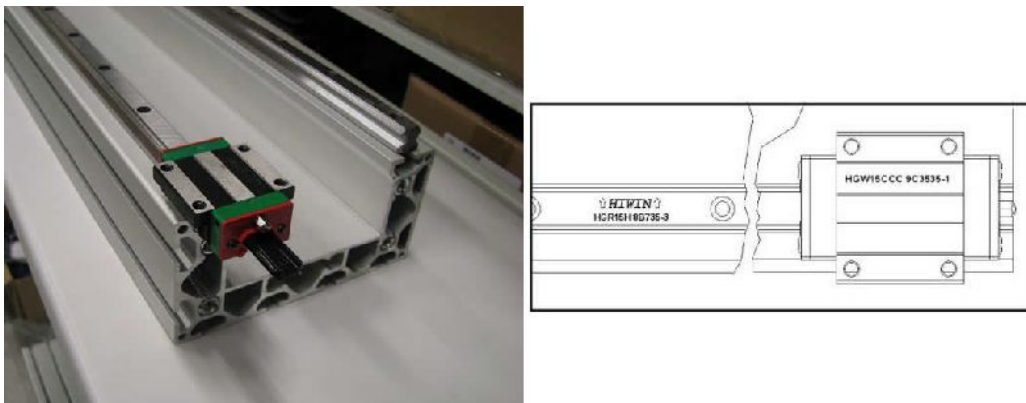

Figure 3.6: Hiwin grease nipples should face each other; place first carriage as shown. Also, align the text of the carriages with the text of the rail
- Carefully place the first Hiwin carriage on the rail; push the plastic tube out in the process as shown in figure 3.6: